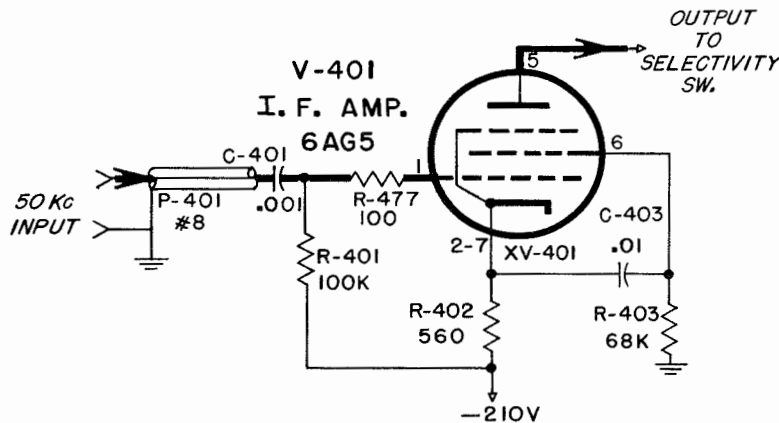

Figure 2-15. I.F. Amplifier V-401, Simplified Schematic Diagram
(1) I.F. AMPLIFIER V-401 (F-99/FRR-24). (See Figure 2-15).—The output of the I.F. amplifier V-311 is applied through coupling capacitor C-401 across the grid load resistor R-401 of I.F. amplifier V-401, a type 6AG5. I.F. amplifier V-401 is a conventional amplifier circuit except that the plate and screen circuits are connected to chassis instead of being connected to a point that is positive with respect to the